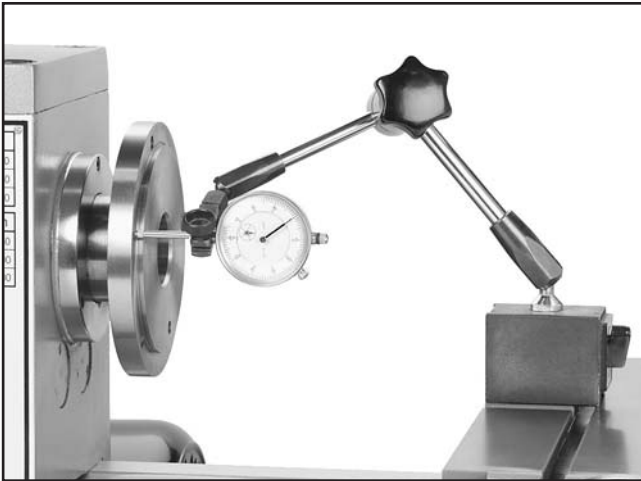

Figure 110. Dial indicator setup.
7. Place a dial indicator on the table and move the carriage toward the spindle until the indicator plunger lightly touches the spindle face and the dial reads exactly zero (see **Figure 110**).